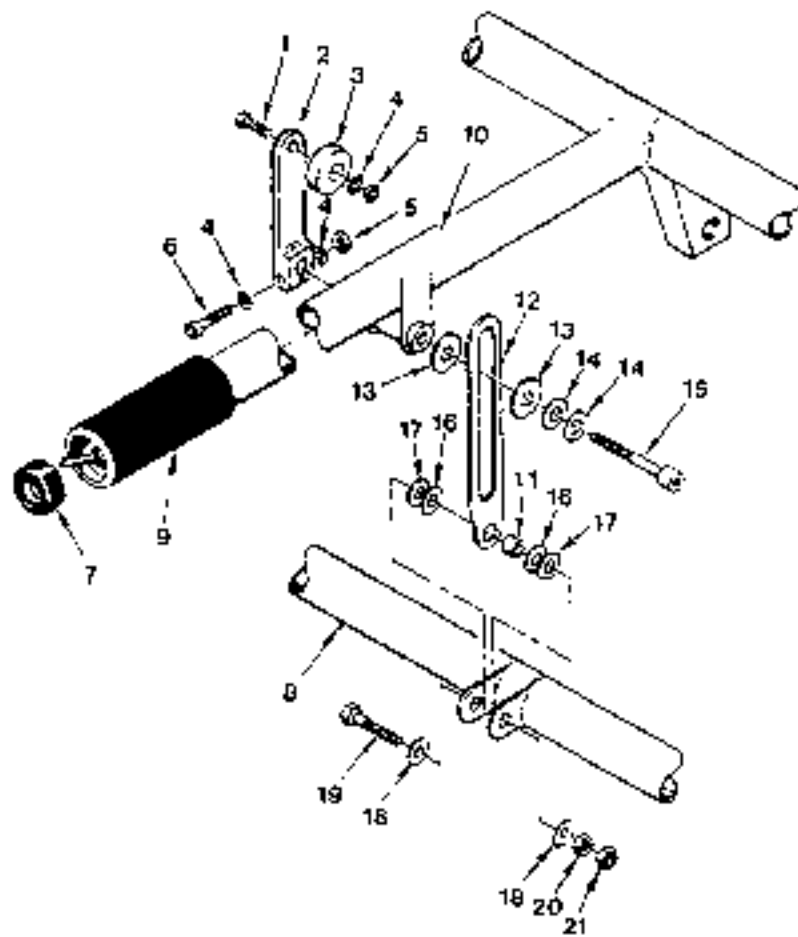

FIGURE 8-5 COLLECTIVE FRICTION ASSEMBLY
- a. Assemble A332-1 friction lever per Figure 8-5. The spring washers, item 14, should be assembled with their concave sides together. The two washers, item 13, are installed with the grey Teflon[®]-coated surface against the A333-1 stop (item 12). The A332-1 lever is threaded onto the NAS1352-4-24P screw as the screw starts to protrude from the attachment fitting.